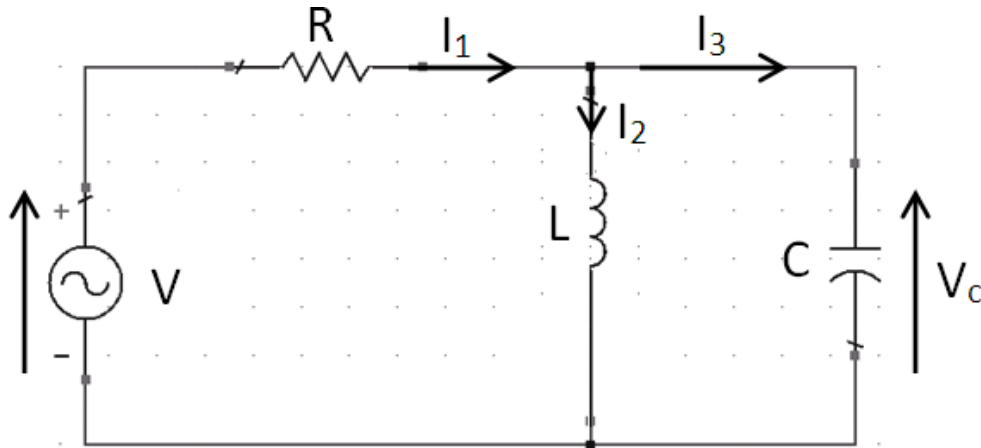

Figure 3(a): RLC electrical circuit
- (a) A RLC circuit is shown in Figure 3(a) below.
- (i) Develop a differential equation for the RLC electrical circuit shown in Figure 3(a) above. **(8 marks)**